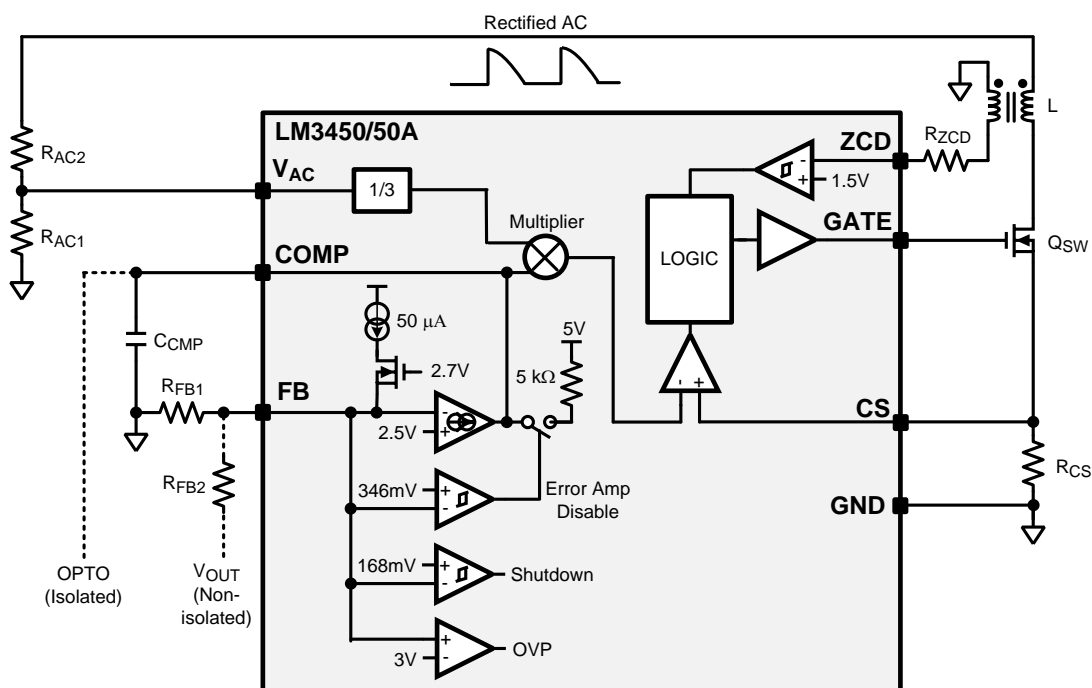
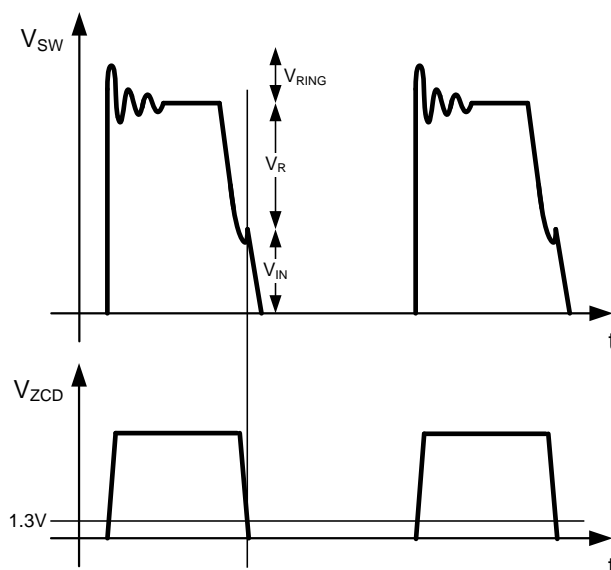

Figure 21. PFC Control Circuit
Figure 22. ZCD Waveforms for Flyback Design
The LM3450/50A uses CRM control to regulate the output voltage and provide power factor correction. In a non-isolated boost topology, an external voltage divider (R_{FB1} , R_{FB2}) is used to sense the output voltage, as shown in Figure 21. The divider is connected to the inverting input (FB) of the internal error amplifier. The LM3450/50A regulates the feedback voltage (V_{FB}) to 2.5V in a closed loop fashion.
For an isolated flyback topology, where the error amplifier is on the secondary, the LM3450/50A internal error amplifier can be bypassed using a single 5.1kΩ resistor (R_{FB1}) from FB to GND. This engages an internal 5kΩ pull-up resistor at COMP. COMP can then be connected directly to the optical isolation as shown in Figure 21.
ZCD is implemented with a 100kΩ resistor from the ZCD pin to a coupled winding on the transformer or inductor as shown in Figure 21. This winding is also used to bootstrap V_{CC} after start-up. When Q_{SW} turns off, the voltage at the ZCD pin (V_{ZCD}) increases as energy is transferred through the auxiliary winding. The circuit arms when V_{ZCD} exceeds 1.5V. Then, when the energy is fully transferred, V_{ZCD} decreases towards zero. When V_{ZCD} falls below 1.3V, the transformer is assumed to be demagnetized, the circuit disarms, and Q_{SW} is turned back on as shown in Figure 22. The ZCD pin voltage will remain low until Q_{SW} is turned off via peak detection and the cycle repeats.
The LM3450/50A internal error amplifier is used for non-isolated designs (boost) where the output voltage can be directly sensed, via a resistor divider, at the FB pin. The FB pin is the inverting input of the trans-conductance amplifier which is regulated to 2.5V. The COMP pin is the output of the amplifier and external compensation is placed from COMP to GND in the form of a single capacitor (C_{COMP}) as shown in Figure 21, a series resistor and capacitor, or both. The output of the amplifier sources or sinks current as necessary to force the inputs of the amplifier to be equal. The compensation method depends upon the transient performance desired and requires a loop gain analysis. This analysis can be somewhat complex and cumbersome. A detailed analysis can be found Application Notes AN-2098 (literature number SNVA463) and/or AN-2150 (literature number SNVA485).